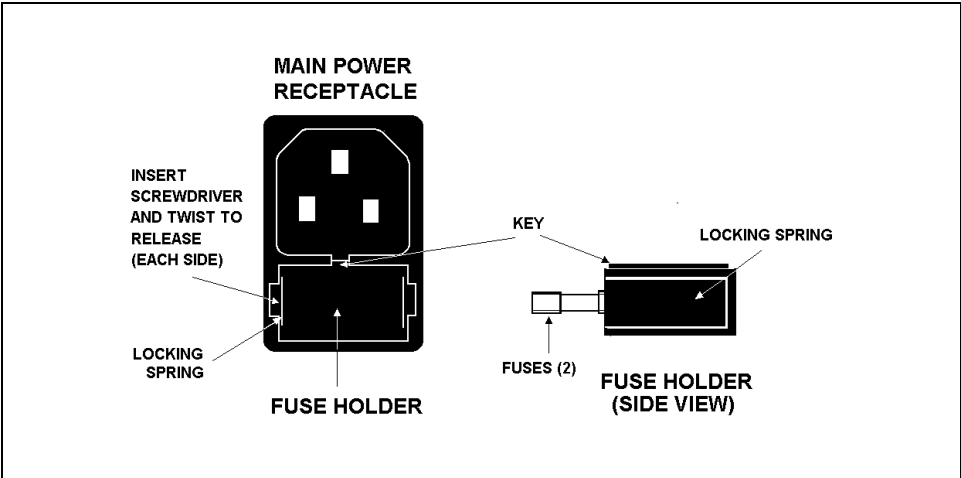

Figure 5-7. Main Power Fuse Holder
2. The fuse holder is part of the main power receptacle on the rear panel (see Figure 5-7). A recessed lock is located on each side of the fuse holder. Using a small screwdriver or your fingernails, push each lock toward the center to release it. The fuse holder pops out approximately 0.16 cm ( $\frac{1}{16}$  in) when the locks release. When both locks are released, pull the fuse holder straight out of its compartment.